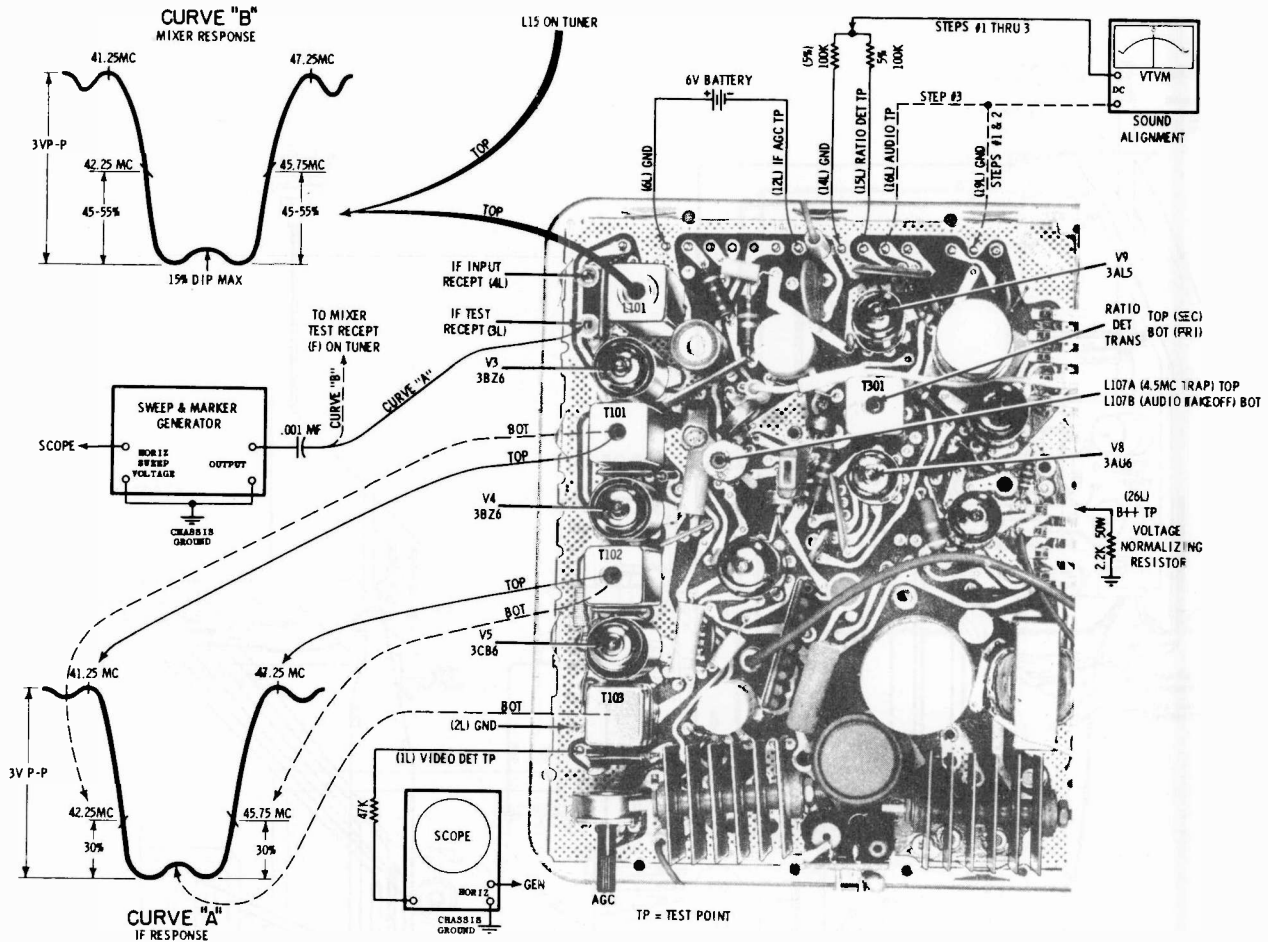

FIGURE 11. IF & SOUND ALIGNMENT DETAIL
4. Disable tuner oscillator by shorting point (N), on top of tuner near 5U8, to chassis.
7. Refer to Figure 11, Video IF and Sound Alignment Detail, for coil and test point locations.
4. Refer to Video IF and Sound Alignment Detail (Figure 11) for coil and test point locations.